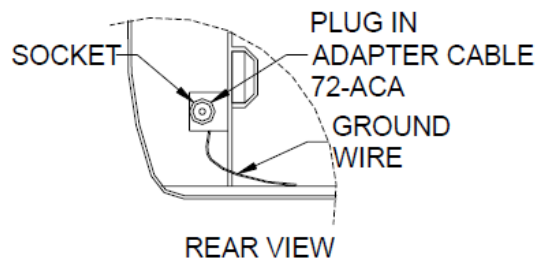

Fig. 5
2. Plug adapter into matching socket located (when viewed from rear) on bottom left hand side of mechanism housing base (Fig. 5).